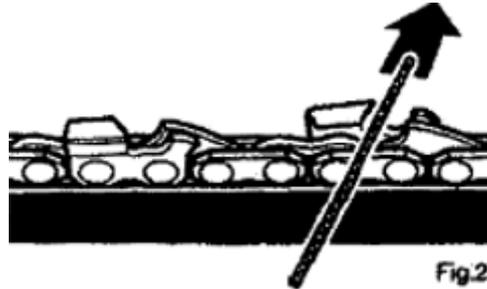

Fig.25
4. Using light but firm pressure, rub towards the front corner of the tooth. See Figure 25.